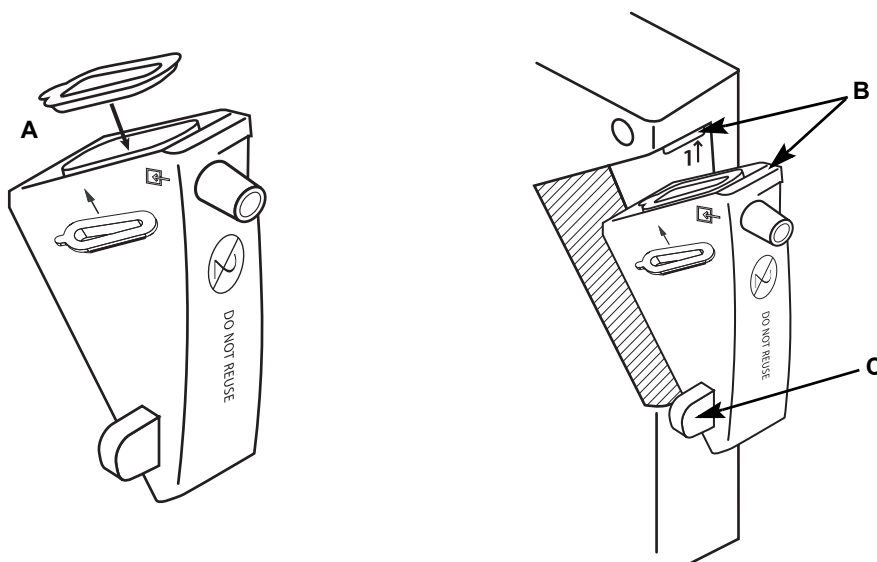

Figure 2. Replacing the Moisture Trap/Filter
1. Place the filter in the moisture trap so the silicone gasket faces up and hydrophobic material fits inside the moisture trap opening (figure 2-A).
2. Using the guide marks on the back of the monitor, align the groove at the top of the moisture trap with the ridge at the top of the trap housing on the monitor (figure 2-B).
3. The trap is tilted in top first, then bottom. Press the moisture trap into position using the tab (figure 2-C). There should be a tactile click and the moisture trap should be flush with the side and back of the monitor.